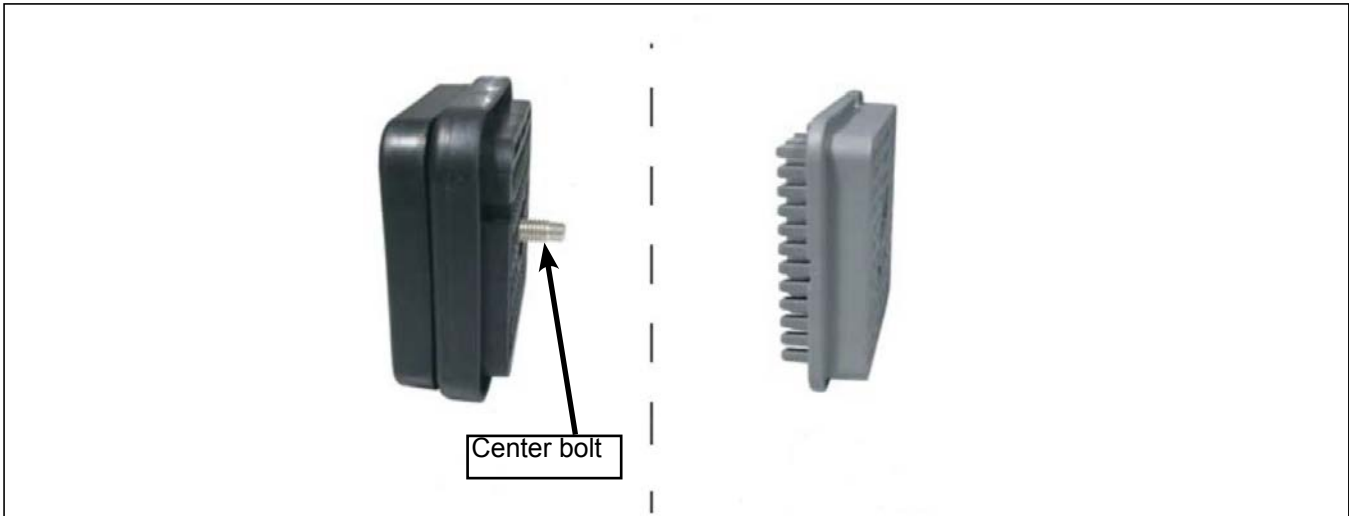

Figure 3 - X6499A Connector
- 1.4. Remove center bolt on connector X6499A, remove wedge locks and connect cable N80191 white wire to pin 85 and black wire to pin 86 of X6499A connector (see Figures 3 and 4).